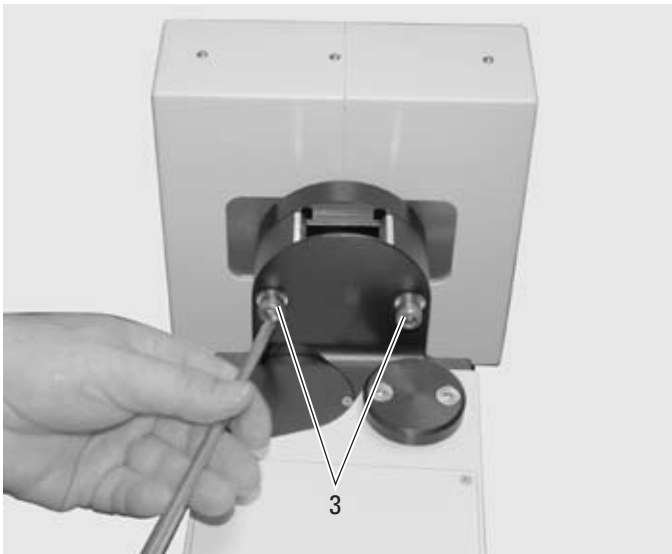

Fig. 2
⇒ Screw the XY-unit to the tilt drive using 2 Allen screws (3) (Fig. 2).